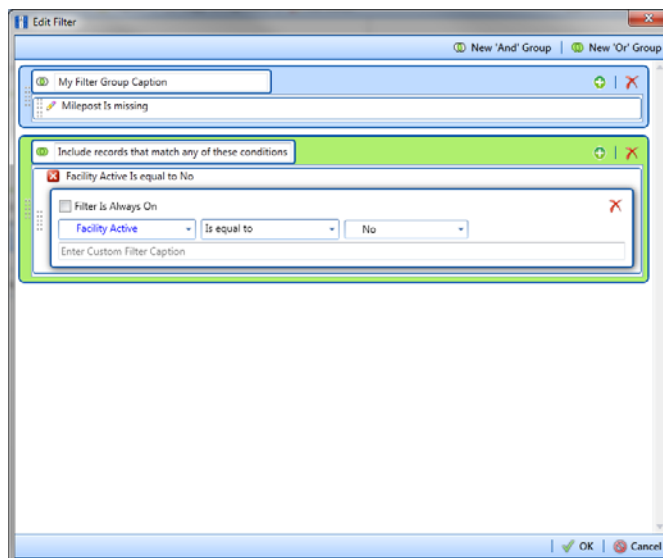

Figure 9-18. New 'Or' Filter Group
- a Click  **New 'Or' Group** to open a filter properties group box (Figure 9-18, page 404).